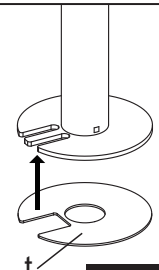

Figure 4
2. Attach Soft Pad(t) to the Grommet Base Plate(m), see Figure 4.